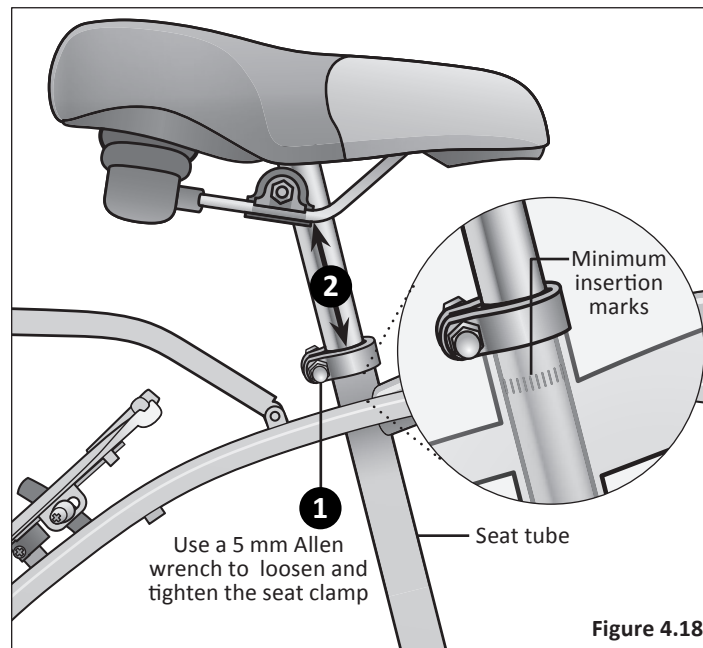

Figure 4.18
- 1 Using a 5 mm Allen wrench, loosen the seat clamp bolt. **Figure 4.18**